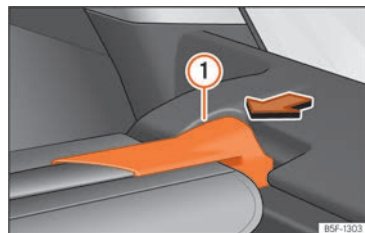

Fig. 178 In the luggage compartment: remove the shelf.
- Press the rear shelf support »» Fig. 178 ① in the direction of the arrow.
- Engage the support of the rear shelf >>> Fig. 178 (A) into the housing on the other side.